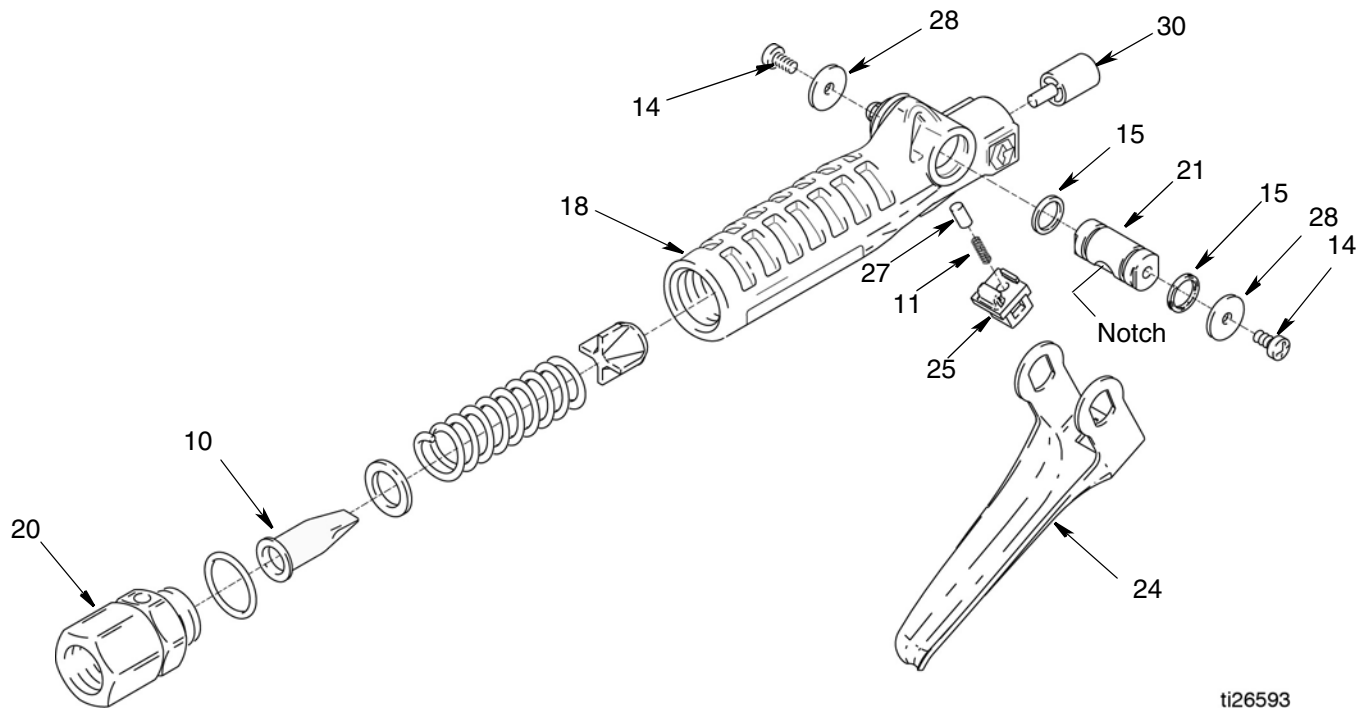

FIG. 3
See FIG. 3.
- The large end of the pushrod (30) fits into the notch in the cam (21), which is part of the trigger assembly. It is important that you know this **before** you remove or install parts.
- For torque specifications and lubrication instructions in FIG. 3, see service notes in the Parts Drawings beginning on page 12. XDM6 models do not have trigger lock parts 11, 25 and 27.
- If you are replacing the o-rings (15) or the cam (21) or the push rod (30), remove the swivel (20) and the internal pieces. **You must remove the cam in order to get the push rod out of the outlet end of the valve handle.**
- Remove the screws (14) and washers (28) and remove the trigger (24). Push the cam (21) out of the valve handle (18). Replace the o-rings (15) and/or cam.
- Reassemble the internal pieces. **The push rod (30) must be inserted through the outlet end of the valve handle before the cam (21) is installed.**
- Lubricate the cam and slide it into the valve handle, making sure the notch is oriented as shown in FIG. 3. Ensure that the large end of the pushrod is resting in the notch of the cam.
- Replace the screws (14) and washers (28). Torque the screws to 15 to 25 in-lbs (1.7 to 2.8 N•m).
- Replace the swivel (20) and torque to 15 to 20 ft. lbs (20 to 27 N•m).
2. Unscrew the hose fitting from the swivel (20).
3. Remove and replace the filter (10), which is inside the valve handle (18). Make sure the filter is oriented as shown in FIG. 3.
4. Thread the hose fitting into the swivel (20) and tighten. Make sure the swivel (20) is torqued to 15 to 20 ft-lbs (20 to 27 N•m).